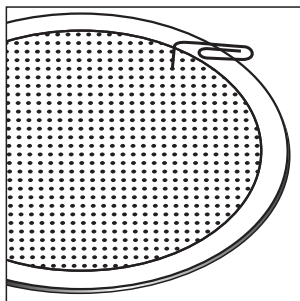

Figure 6—Use a paperclip to remove grille.
1. If the speaker is not yet installed, the grille can be removed simply by pushing the clamp screws forward to push the grille off the speaker from the inside. If the speaker is already in the wall, carefully hook the grille with a bent paper clip and pull it gently away from the frame (figure 6).